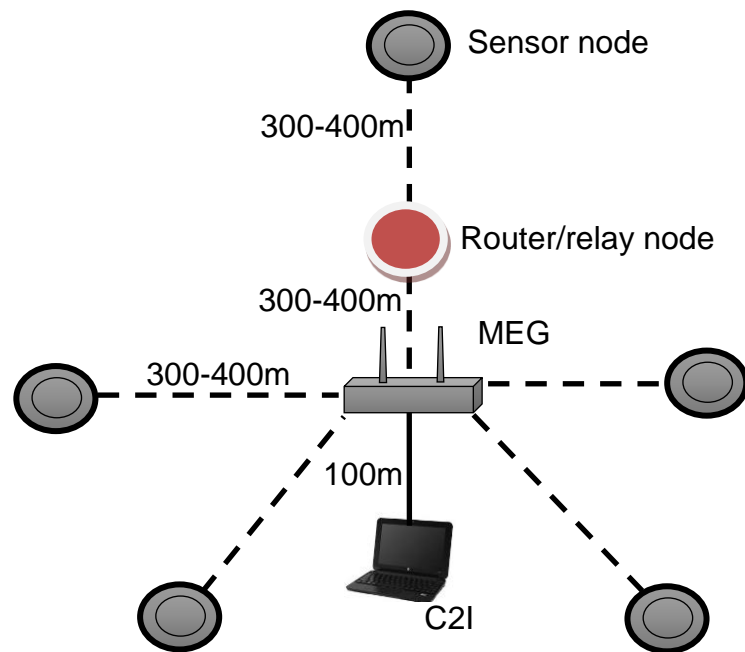

Fig.8 Star shaped topology design architecture of UGS, dotted lines depict Zigbee wireless comm and straight line for Ethernet cable connection.
- d. **Zigbee Comm.** UGS sys sensor nodes comm with MEG using Zigbee comm module. The device works around 900 MHz freq band with inbuilt tx and comm security features to avoid interception or decryption of msgs by unintended users. The basic comm network design used by UGS sys is star topology in which MEG serves as central hub to which all sensor nodes are connected. The comm rg is 300-400m extendible by 300-400 using a router/relay node. Fig.8 is ref for UGS sys star topology network design.